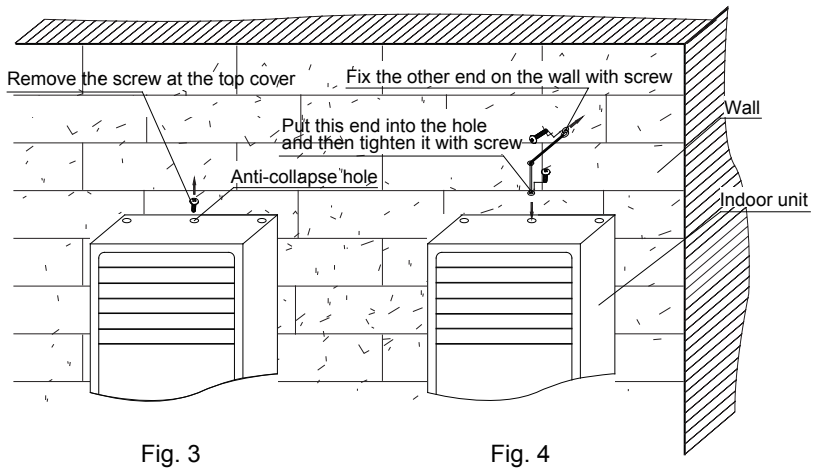

Fig. 3
1. Remove the screw of anti-collapse hole at the top cover of indoor unit (see fig. 3);